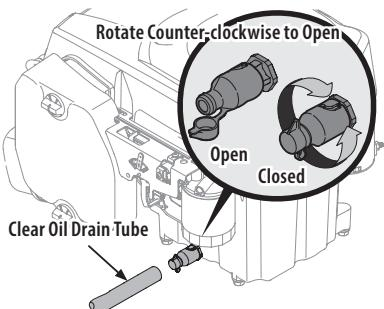

Figure 29
- Open the protective cap on the end of the oil drain valve to expose the drain port (Figure 29).